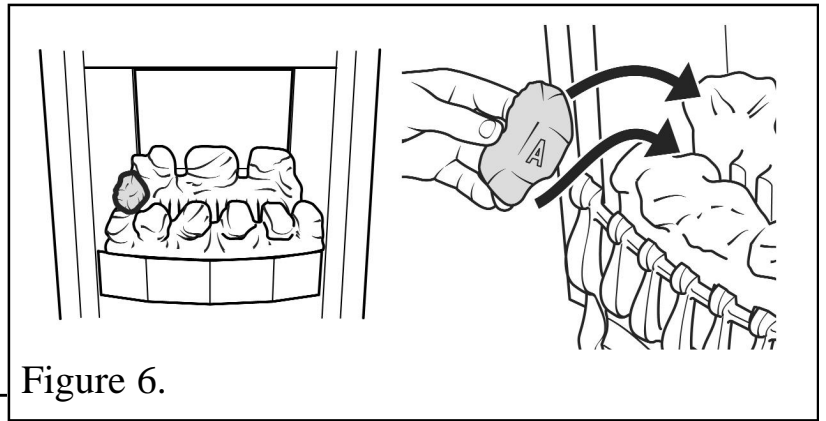

Figure 6.
3. Place a type “A” coal between the front and rear base coals with the letter “A” upright and so that the coal is against the left side of the firebox. (See figure 6).